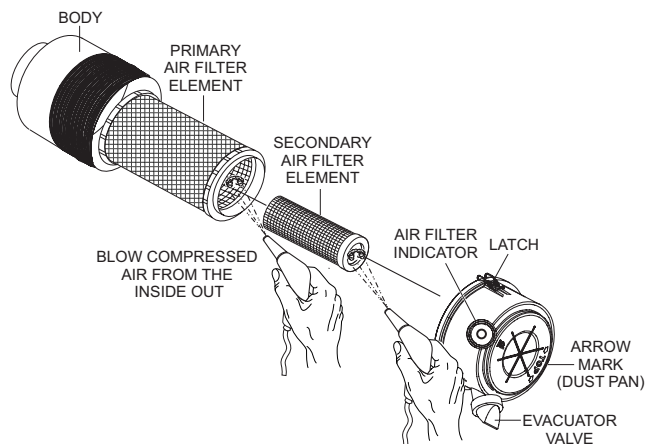

Figure 60. Engine Air Cleaner
This John Deere diesel engine is equipped with a replaceable, high-density, paper air cleaner element (Figure 60). The air cleaner is also equipped with an inner (secondary) element that is used as a backup filter should the primary element become damaged. Check the air cleaner daily or before starting the engine. Replace the air cleaner as needed.
1. Release the **latches** that secure the **air cleaner cover** to the **air cleaner body** (Figure 60).
2. Remove the air cleaner cover (Figure 60) and set it aside.
3. Remove both the primary and secondary **air cleaner elements** (Figure 60).
5. To clean the **primary element** (paper air filter) as shown in Figure 60, tap the filter element several times on a hard surface to remove dirt, or blow compressed air, not to exceed 30 psi (207 kPa, 2.1 kgf/cm²), through the filter element from the inside out.
8. Clean the inside of the air cleaner body (Figure 60).